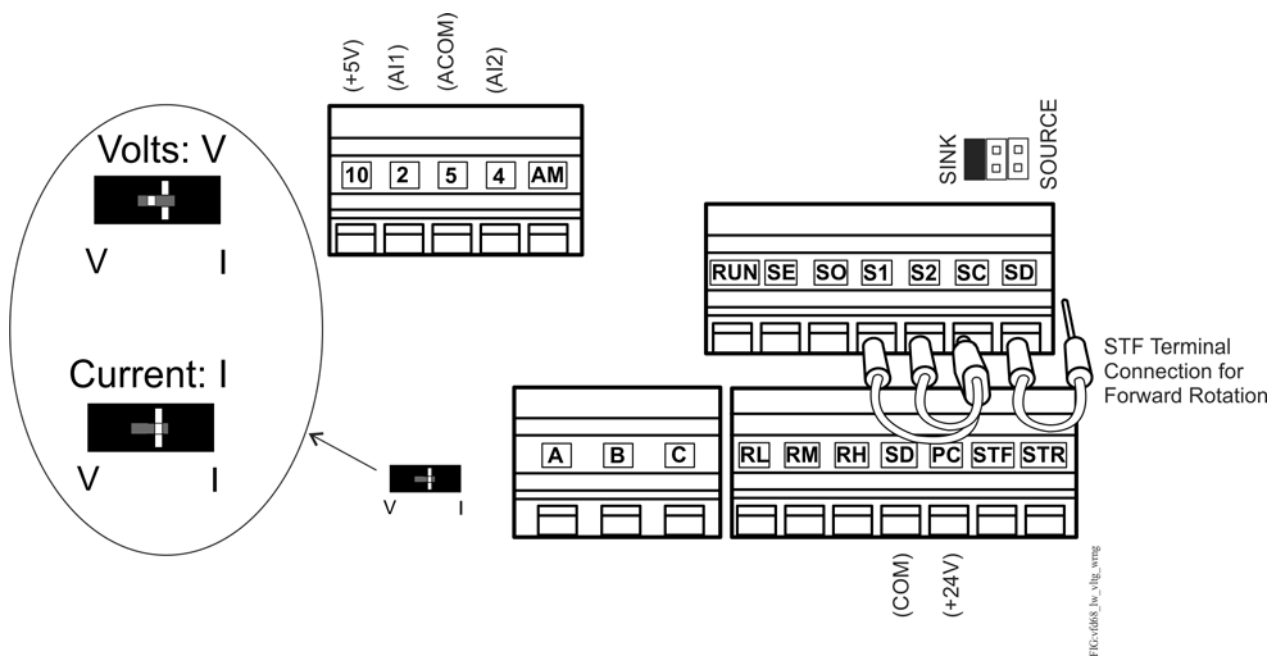

Figure 24: VFD68 Setup and Low-Voltage Connections
Verify that the VFD68 is in PU mode with no jumper between SD and STF (Figure 24).
Verify that the VFD68 is in PU mode with no jumper between SD and STF (Figure 24 on page 35).
1. Verify that the jumper above terminal **SC** (Figure 24) is set to **SINK**.
2. Verify that the AI2 mode switch to the left of terminal **A** (Figure 24) is set to **V** for applications with 0–5 V or 0–10 V voltage input or set to **I** for applications with 4–20 mA current input.